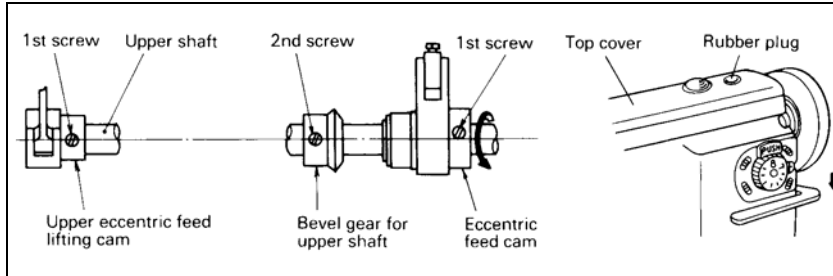

Fig.29
### 29、 Adjustment of feed timing (Fig.29):
- 1) The standard position of the eccentric feed cam and eccentric feed lifting cam are illustrated to Fig.29